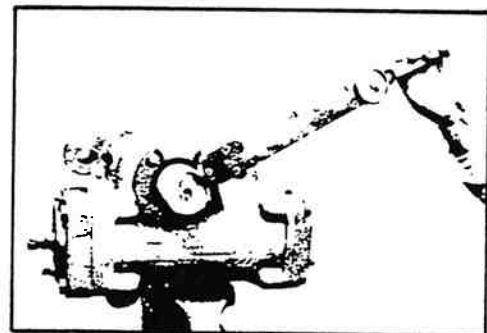

Figure 11-99. Tightening Trunnion Cover Bolts.
52. Install a new dirt and water seal (34). Install four trunnion cover bolts (32) and tighten the bolts to 15-22 ft. lbs. (20-29 Nm) torque (figure 11-99).